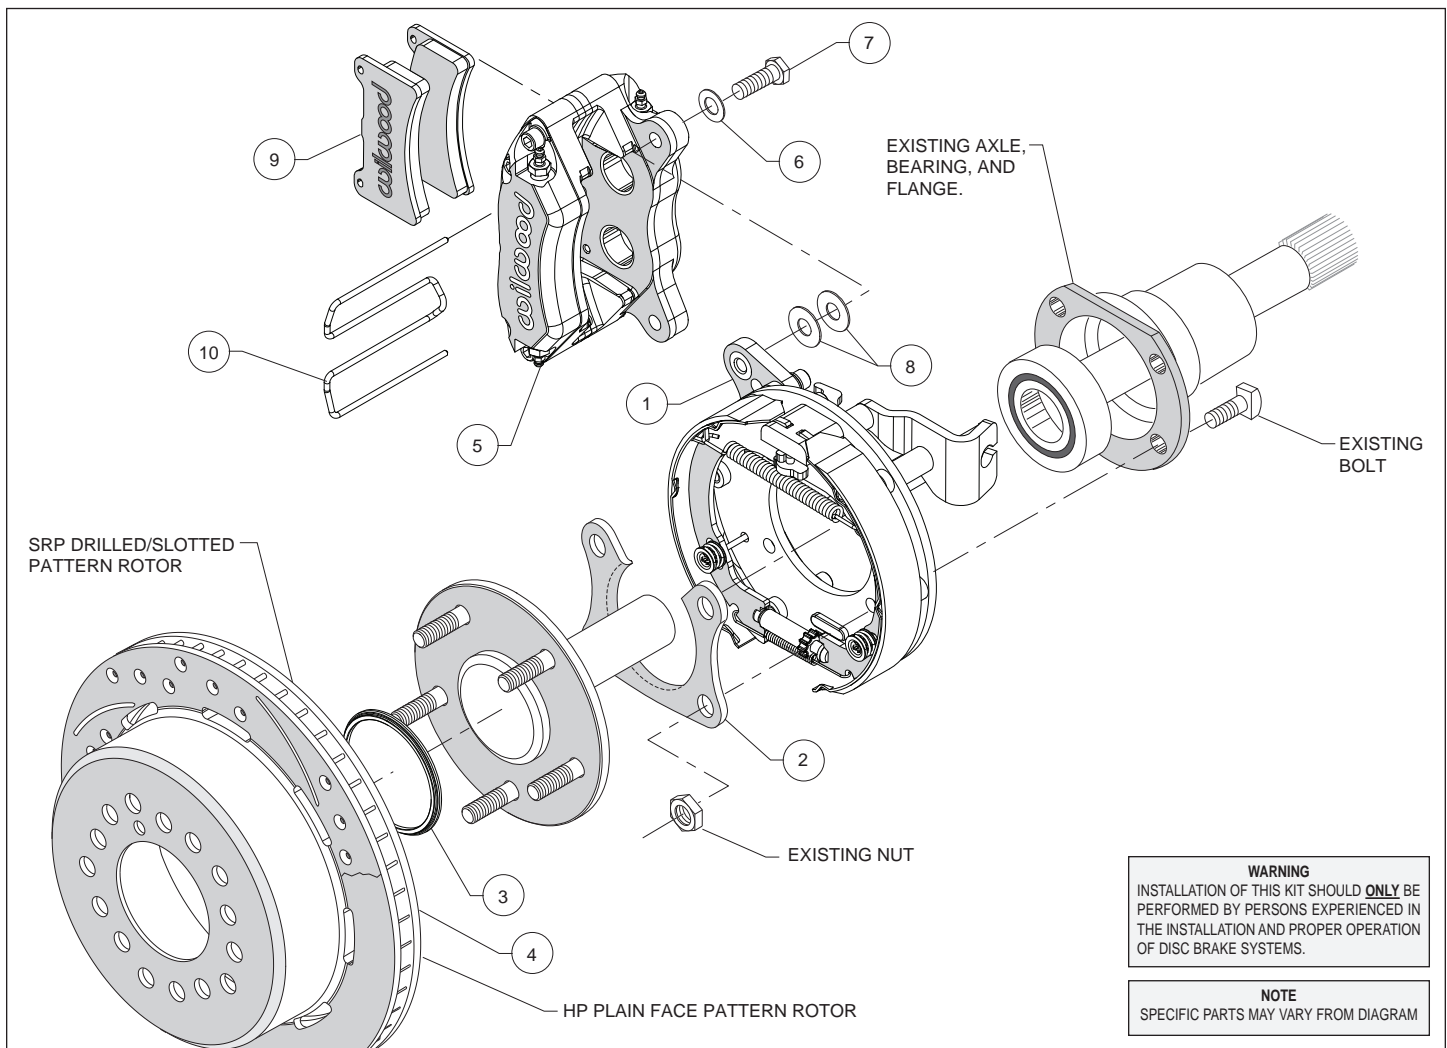
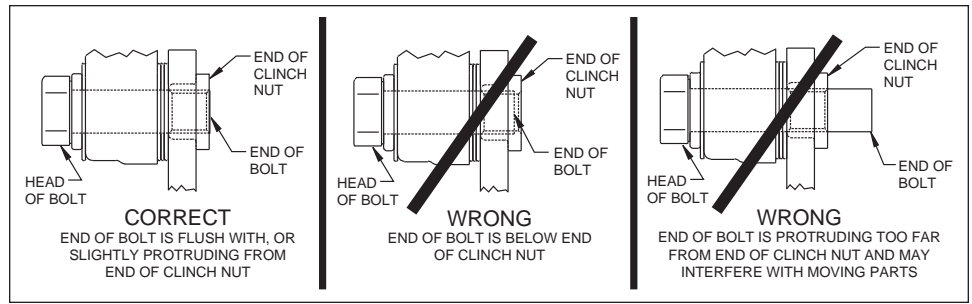

Figure 1. Typical Installation Configuration
Figure 5. Clinch Nut Engagement Diagram
**Assembly Instructions** (numbers in parenthesis refer to the parts list, and Figure 1 on the preceding pages): **CAUTION:** All mounting bolts must fully engage clinch nuts. Be sure to check that all bolts are either flush or protruding through flanged side of clinch nut after shimming, Figure 5.
- Orient the bracket assembly (1) as shown in Figure 1 and Photo 1 and slide it onto the axle. Insert the axle and bracket into the axle housing. Ensure that the bracket assembly backing plate fits flush against the axle housing flange.
- Install the bearing retainer (2) with the opening pointing upward and the lip facing inward (toward the bearing), as shown in Figures 1 and 4, and Photo 2. Secure retainer and bracket assembly to the axle housing flange using the Original Equipment Manufacturer (OEM) bolts and nuts, Figure 1. Apply red *Loctite*® 271 to the OEM bolt threads and torque to OEM specifications.
- Slide the rotor registration adapter (3) onto the axle register on the axle flange with the smaller O.D. facing toward the rotor/hat (4), Photo 3. Align the correct hole pattern in the rotor/hat with the stud pattern on the axle flange and slide into place, Figure 1 and Photo 4. **NOTE:** The rotor/hat must fit flush against the axle flange or excessive rotor run out may result. Install three lug nuts (finger tight) to keep the rotor/hat assembly in place while continuing with the installation. **NOTE:** Some OEM and after market axles come with stud sizes larger than 0.50" diameter. Verify stud size and have a qualified machine shop drill the bolt circle of the hat/rotor to the correct stud size, if necessary.
- NOTE:** Please reference the caution statement at the beginning of the assembly instructions. Mount the caliper (5) onto the caliper mounting bracket (1) using bolts (7) and washers (6), as shown in Figure 1. Initially place two .035" thick shims (8) on each bolt between the caliper and the bracket, Photo 5. Temporarily tighten the mounting bolts and view the rotor (4) through the top opening of the caliper. The rotor should be centered in the caliper, Photo 6. If not, adjust by adding or subtracting shims between the bracket and the caliper. Always use the same amount of shims on each of the two mounting bolts. **NOTE:** The end of each bolt must be flush with or slightly protruding from the head of the clinch nut, as shown in Figure 5. If necessary place spare shims between washer (6) and caliper mounting ear to achieve the proper clinch nut engagement. Once the caliper alignment and clinch nut engagement are correct, remove the bolts one at a time, apply red *Loctite*® 271 to bolt threads, and torque to 40 ft-lb.